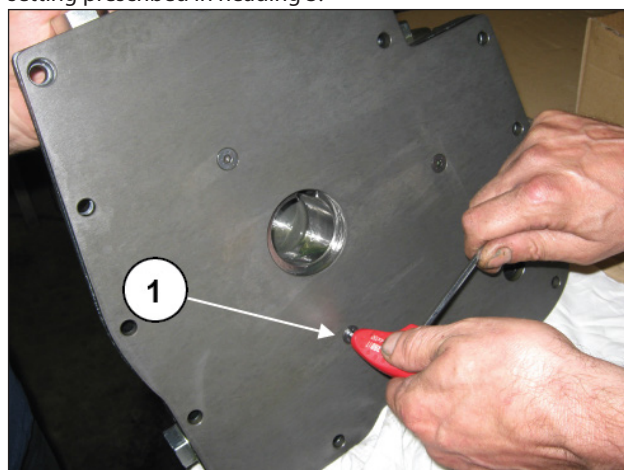

Fig. 154
Fit the lube pump rear plate and tighten the three M6 screws (pos. ①, Fig. 154) using a torque wrench with the torque setting prescribed in heading 3.